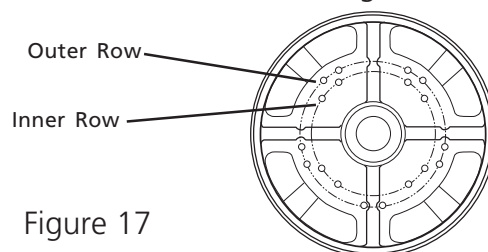

Figure 17
4. With some fans you have an option to install four or five blades. For five blades, mount to the outer row of holes on the motor. For four blades use the inner row. See Figure 17.